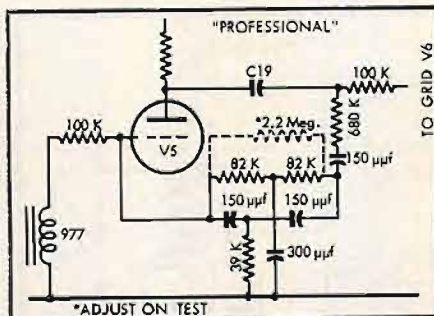

Fig. 13. Equalizer used in "professional" models.
(A) and (B) of Fig. 12 permits of mixing two sources, while Figs. 13 and 14 give useful means of replay equalization, Fig. 13 in particular allowing very sharp peaking at any selected frequency, for use with restricted range recorded tapes. The formula and details will be found in the November, 1957, issue of AUDIO, but damping of the network by a resistor—2.2 megohms in drawing—selected according to requirements, may be necessary.